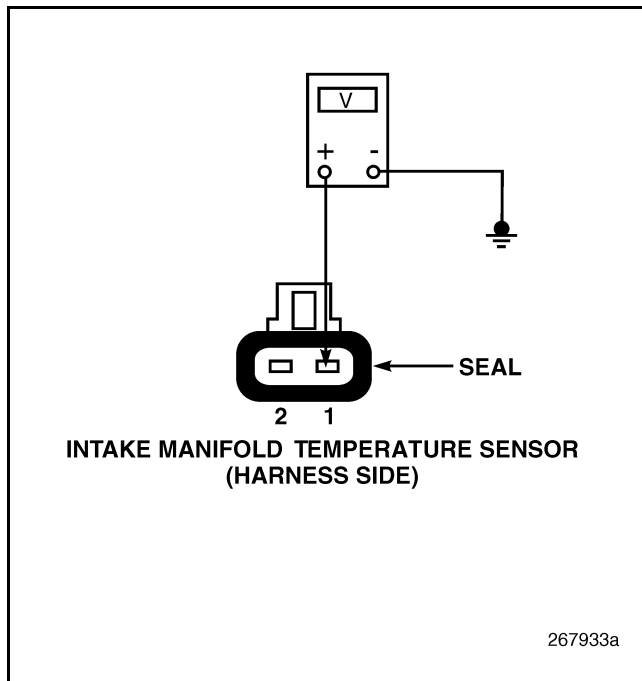

Figure 216
5. Measure the voltage between pin 1 of the IMT Sensor harness connector and a good ground (see Figure 216).